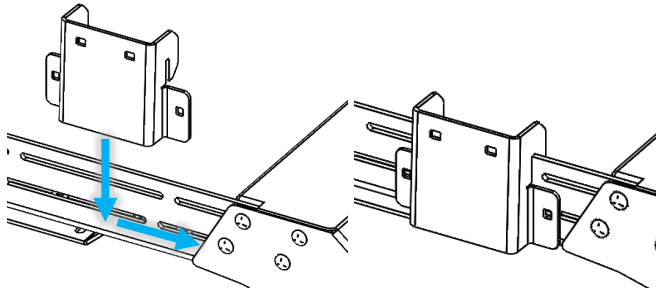

Figure 1: Installation of Front Mounting Bracket
2. Hook one of the awning brackets (351182) over the top of the side rail and slide it all the way forward towards the air dam (front of vehicle; See Figure 1).